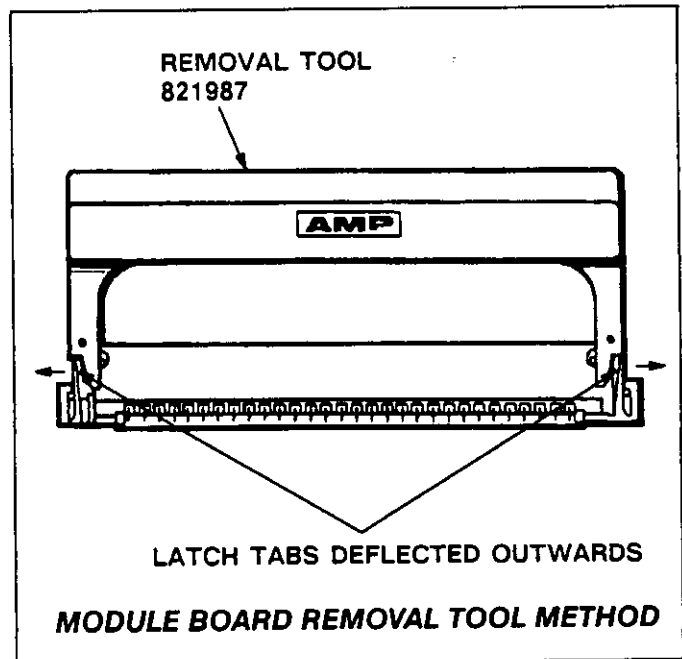

Fig. 5 91-372
B. Module Board Removal Tool Method (Figure 5)